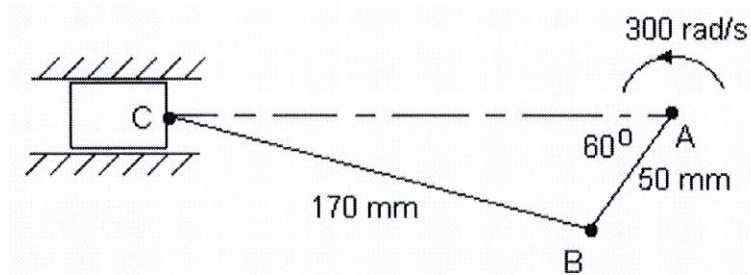

Figure 3(c) / Rajah 3(c)
- (c) A piston in a fire water pump has connecting rod and crank mechanism is shown in Figure 3(c) below. The crank AB with a radius of 50 mm rotates counter clockwise at a constant velocity of 300 rad/s.